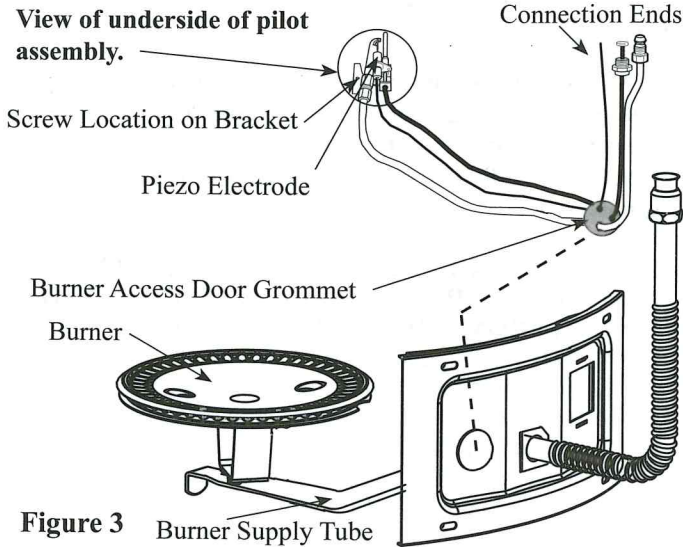

Figure 3 Burner Supply Tube
6. **NEW PILOT ASSEMBLY INSTALLATION:** Insert the new pilot assembly by placing the connection ends through the hole (combustion chamber side) on the burner access door. See Figure 3.
Push the orange grommet into the hole of the door until it is properly seated. See Figure 3 & 4. **IMPORTANT:** Take care not to damage the orange grommet when you install it.